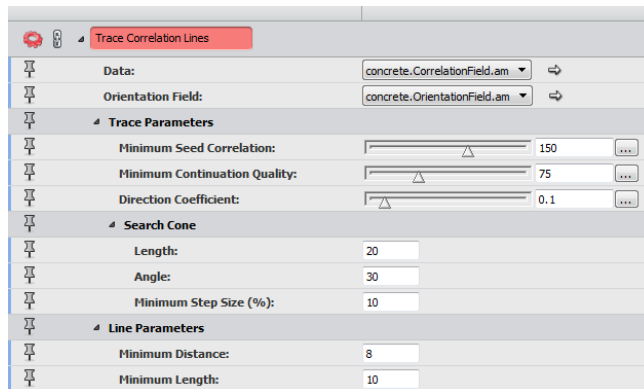

Figure 12.10: Default Parameter Settings of the *Trace Correlation Lines* Module
- Set parameters as shown in Figure 12.10.